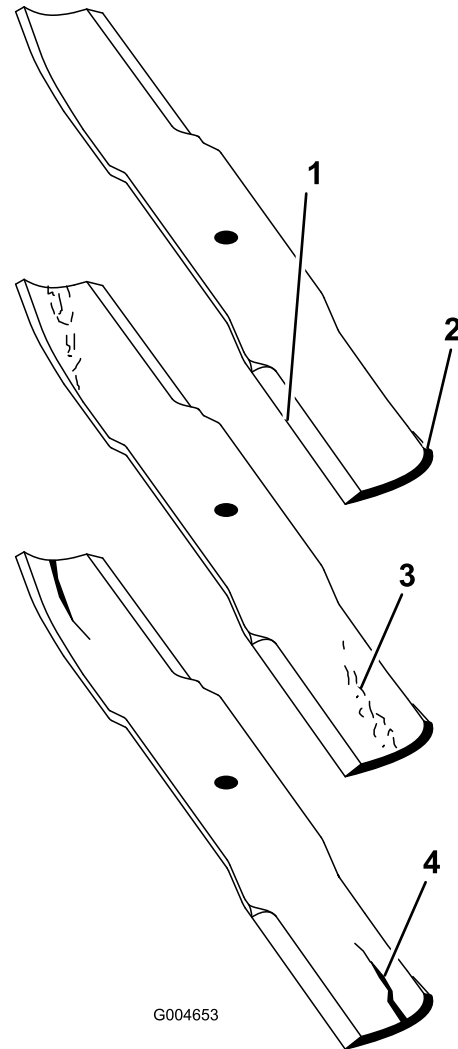

Figure 85
2. Examine the cutting ends of the blade carefully, especially where the flat and curved parts of the blade meet (Figure 85).
Note: Because sand and abrasive material can wear away the metal that connects the flat and curved parts of the blade, check the blade before using the mower. If wear is noticed (Figure 85), replace the blade.